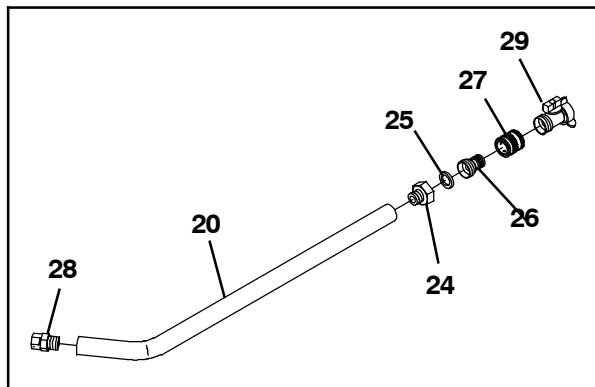
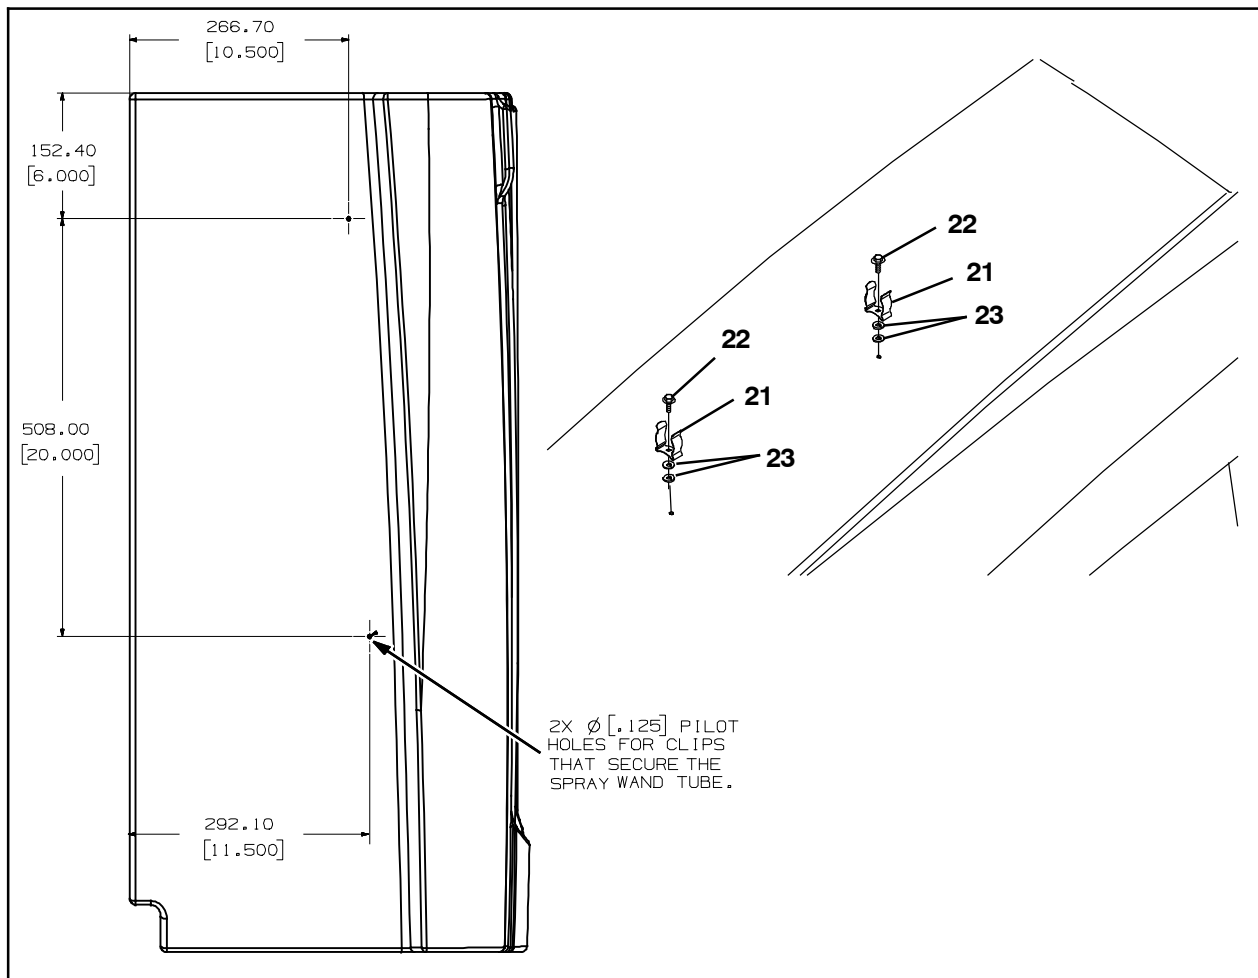

FIG. 10
FIG. 11
30. Apply sealant onto the threads of the nozzle (28) and thread the nozzle into the wand (20). (Fig. 10)
31. Apply sealant onto the threads of the straight brass fitting (24) and thread the fitting into the other end of the wand (20). (Fig. 10)
32. Insert the rubber flat washer (25) into the straight brass fitting (24) installed in the previous step. (Fig. 10)
33. Thread the hose nipple (26) into the spray nozzle coupling (27). (Fig. 10)
34. Thread the hose nipple (26)/spray nozzle coupling (27) assembled in the previous step into the straight brass fitting (24). (Fig. 10)
35. Thread the shutoff valve (29) into spray nozzle coupling (27). (Fig. 10)
36. Drill two 0.125 in. (3.175 mm) holes into the engine shroud. (Fig. 11)
37. Use a hex screw (22) and three flat washers (23) to install each clip (21) onto the engine shroud. (Fig. 11)
38. Insert the wand (20) into the clips (21). (Fig. 10/Fig. 11)